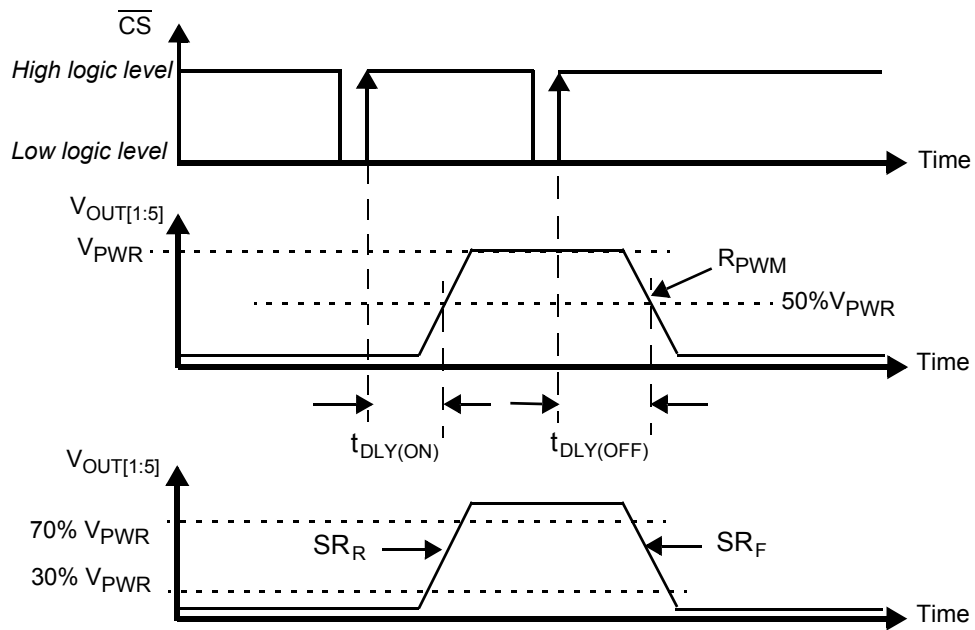

Figure 6. Output Slew Rate and Time Delays
42. The PWM ratio is measured at $V_{OUT} = 50\%$ of V_{BAT} in nominal range of PWM frequency. It is possible to put the device fully on (PWM duty cycle = 100%) and fully off (PWM duty cycle = 0%). Between 4%-96%, $OCHI_{1,2}$, $OCLO$ and open load are available in ON state. See Figure 6. Output Slew Rate and Time Delays.